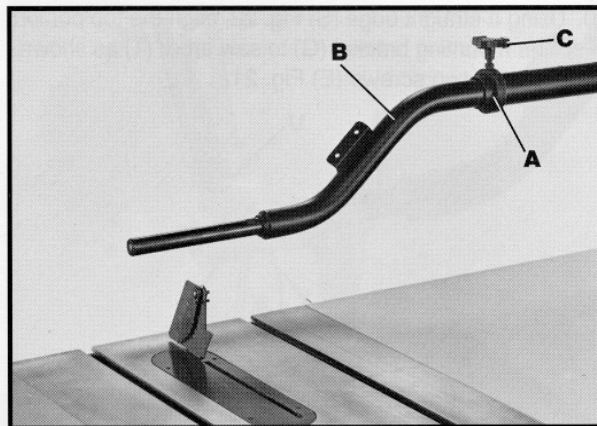

Fig. 26
13. Place lock collar (A) Fig. 26, onto support arm and slide extension arm (B) into support arm as shown. Lock extension arm (B) in place by tightening handle (C) into first hole in support arm.